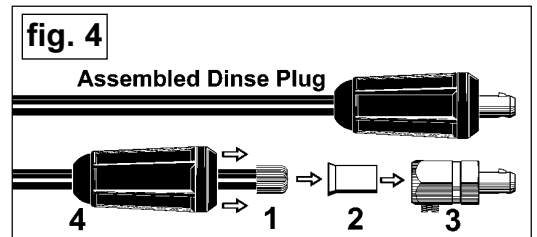

fig. 4
3.3.3 DINSE PLUG ASSEMBLY: Refer to fig.4.